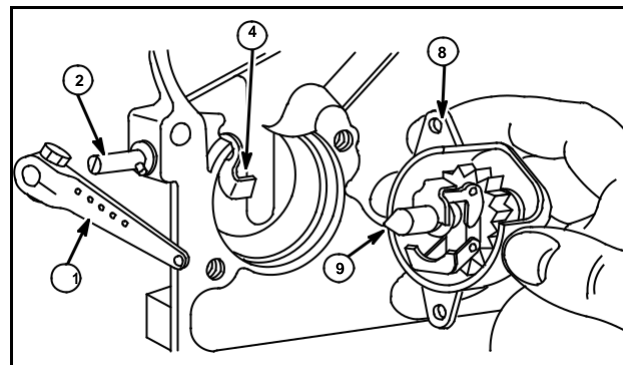

Fig. 16
1. Push governor shaft (2) into crankcase cover, with threaded end in.
2. Assemble small washer on the inner end of the shaft, then screw shaft into governor follower (4) by turning shaft counterclockwise.
3. Tighten securely. Turn shaft until follower (4) points down as illustrated, Fig. 16.
5. Install roll pin (3). The leading end of the pin should just go through the shaft so pin protrudes from only one side of shaft.
7. Hold governor housing in a vertical (normal) position (8) and assemble housing with gear in position so point of steel cup on gear (9) rests against crank follower.